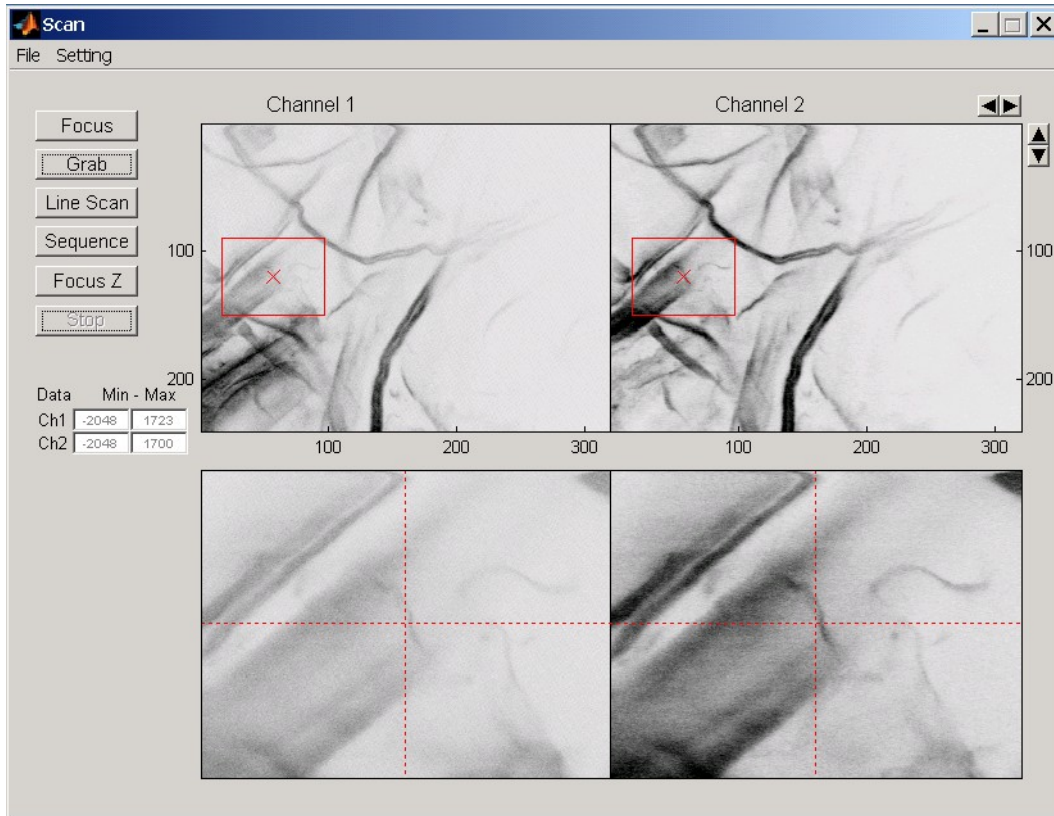

Figure 2: Extended main window.
- **Focus Zoom-In:** enables the user to focus the microscope when a selected area is being scanned. When this item of the menu is selected, the main window is extended downward showing an enlarged view of the selected area (see Fig. 2). Refer to Section 4.1.4 to learn how to select an area of interest with the mouse.
- **Area of Interest:** can be selected by clicking the mouse over the image displays, on the top part of the main window. After clicking once, a red cross enclosed by a red box will show the selected area, see Fig. 2. The size of red box is fixed by the zoom-in factor defined in the Configuration window (see Section 4.3). The zoom-in factor must be large than 100%. Clicking again will erase the selection area box.